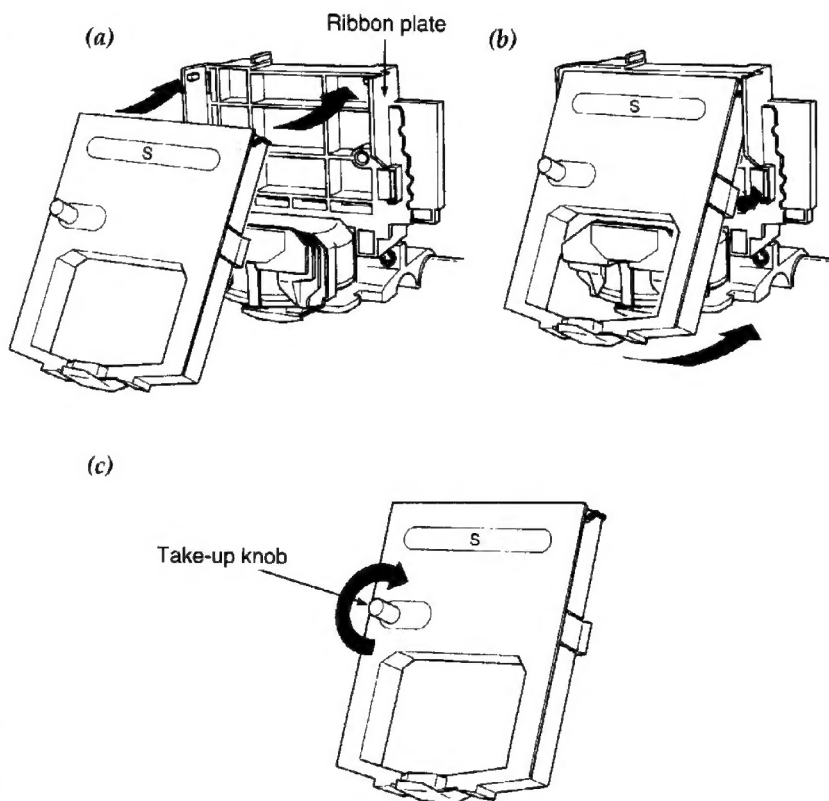

Figure 7. Inserting the Ribbon Cartridge
4. Hold the ribbon cartridge with the blue take-up knob facing up. (Figure 7-a.)
5. Insert the flat end of the cartridge into the upper part of the ribbon plate, then lower the front of the cartridge over the printhead until it snaps into place. (Figure 7-b.)
6. Turn the take-up knob in the direction of the arrow icon to tighten the ribbon. (Figure 7-c.)